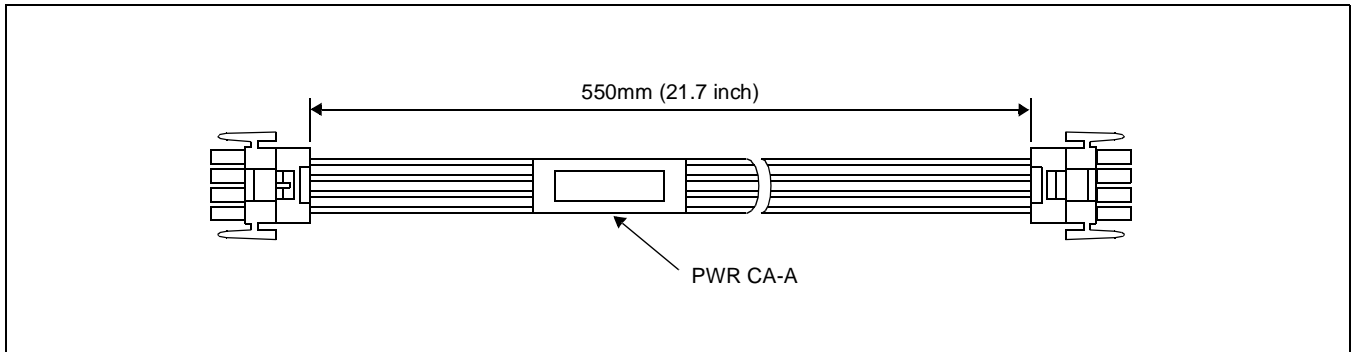

Figure 003-14 PWR CA-A
(11) When the system is a multiple-PIM configuration, connect the PZ-PW86 Cards to each other using PWR CA-A cables, as shown in Figure 003-14 and Figure 003-15.
- (8) When the system is a multiple-PIM configuration, connect the PZ-PW86 cards to each other using PWR CA-A cables (Refer to Figure 003-14 through Figure 003-15).